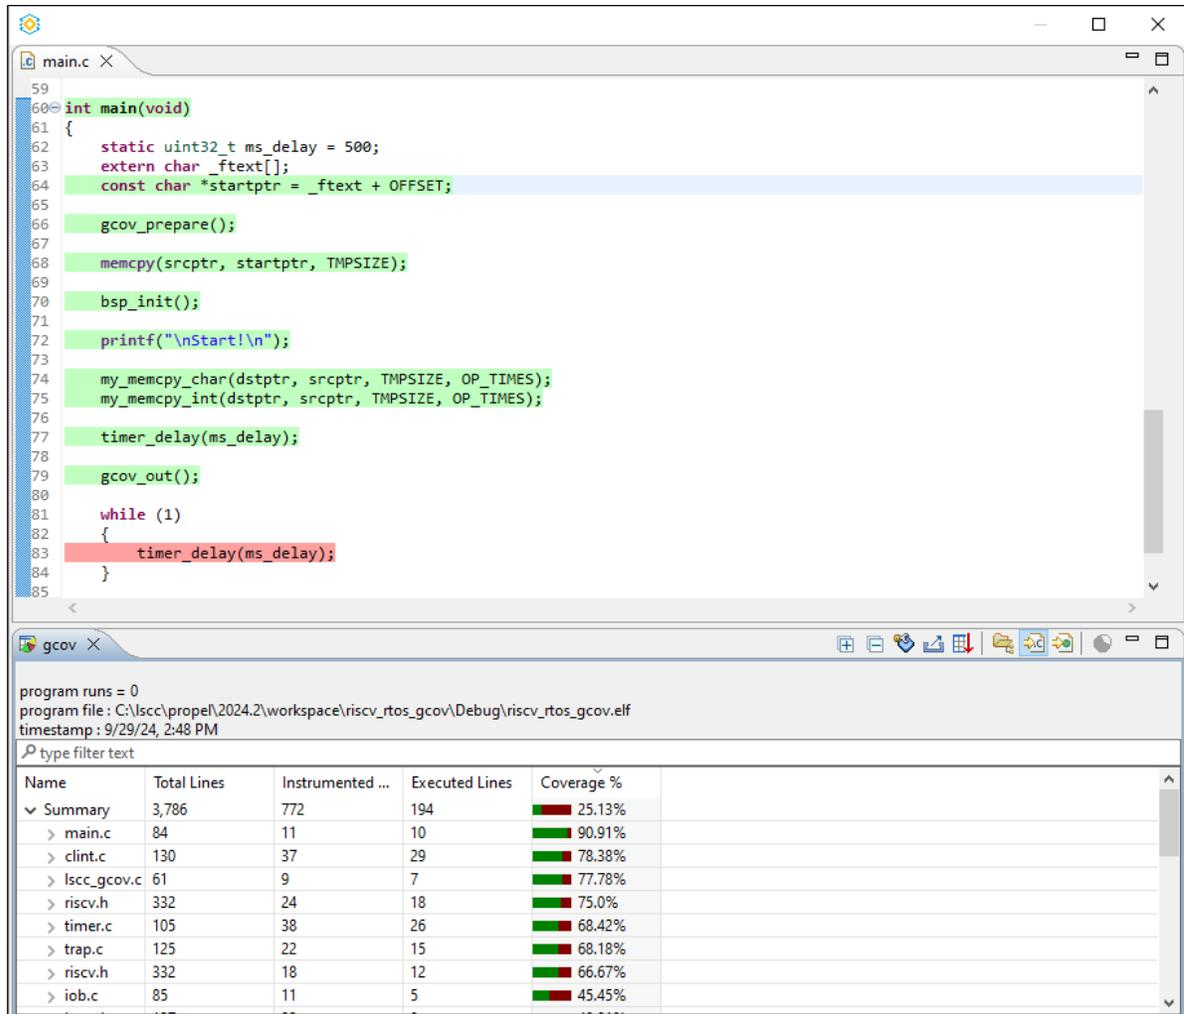

Figure 6.9. Code Coverage Information
3. Wait for a few seconds, the coverage information is displayed (Figure 6.9).